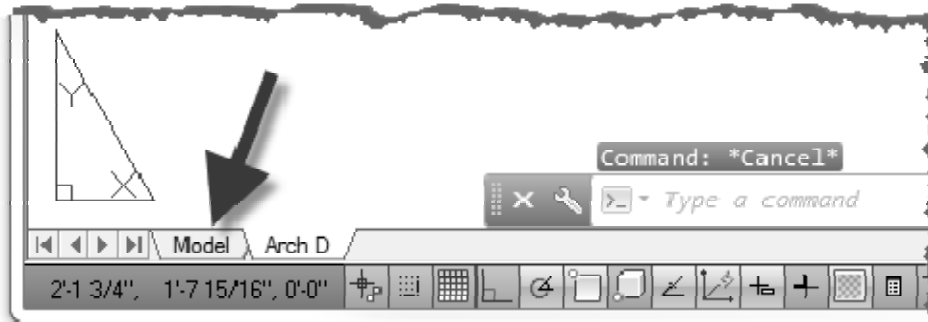

FIGURE 2-1.3 Switching to Model space
7. Click on the **Model** tab to switch to *Model Space* (which is where all the drawing is done as previously mentioned); see Figure 2-1.3.